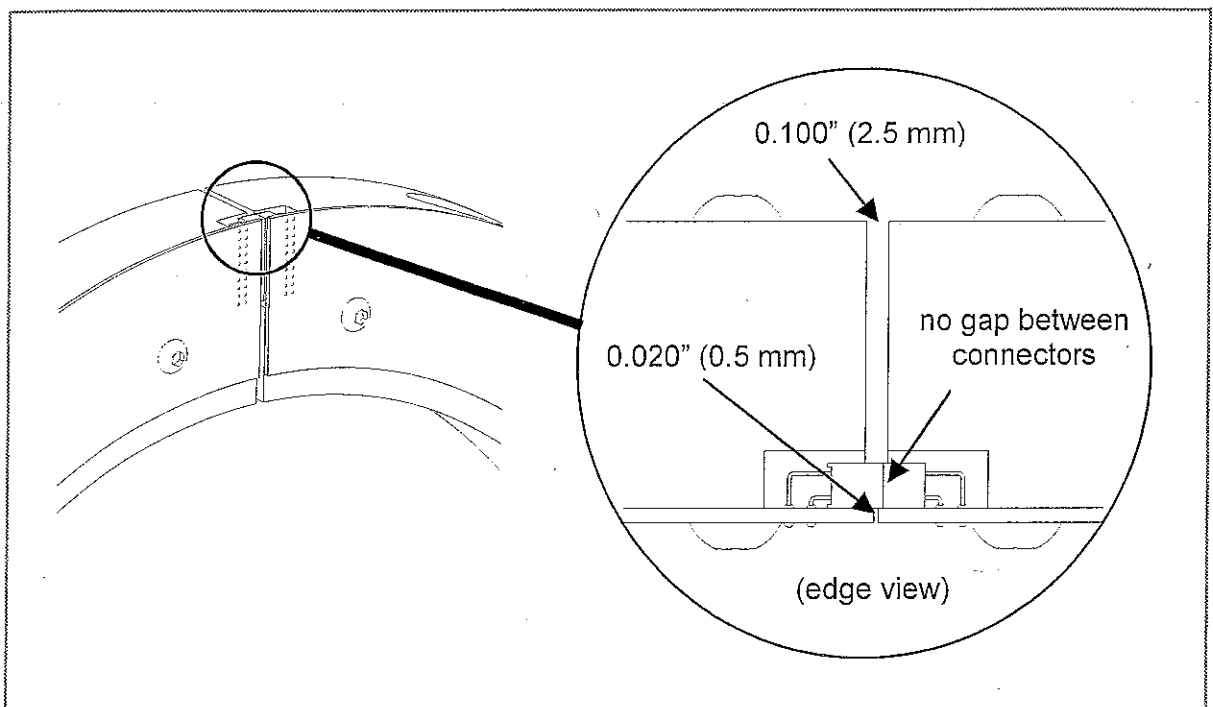

Figure 9 - Correct Collar Gap Spacing
2. Remove large bolts from Rotating Collar if necessary to separate parts. Apply antiseize compound (provided) to the bolt threads. Reassemble collar on shaft adjacent to gage with ribbon cable from collar leading towards gage. (Refer to Figure 1 on page 3 or Figure 10 on page 19.) Make certain that connectors are properly aligned. Install opposing collar bolts from opposite directions to maintain balance. Tighten alternate bolts evenly until gap between collar halves is .100" (2.5mm) at all junctions. (See Figure 9 below.)